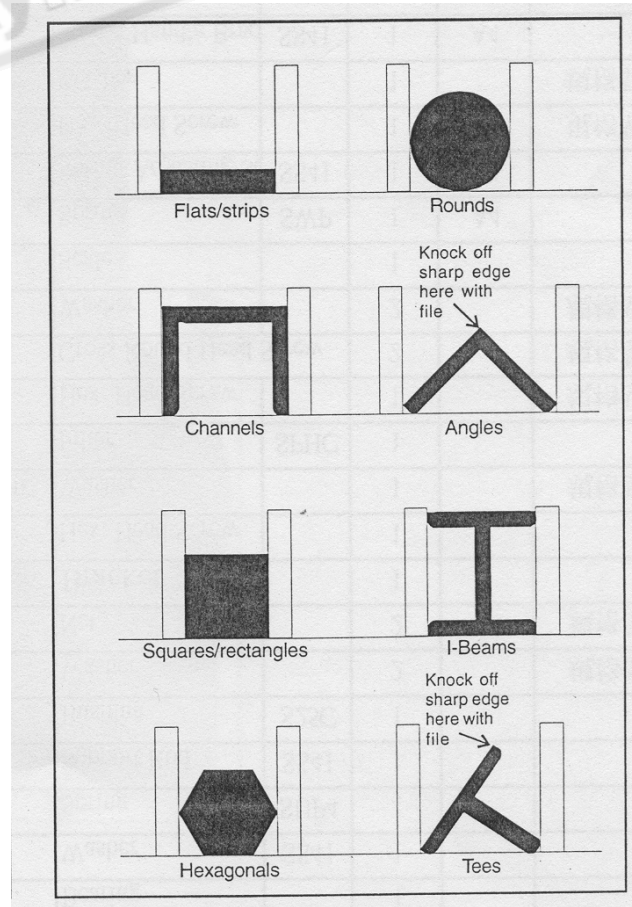

Figure 12. Placing Workpieces in the Vise
1. Clamp the workpiece in the vise. (Refer to **Figure 12** for examples of workpieces in the vise.)